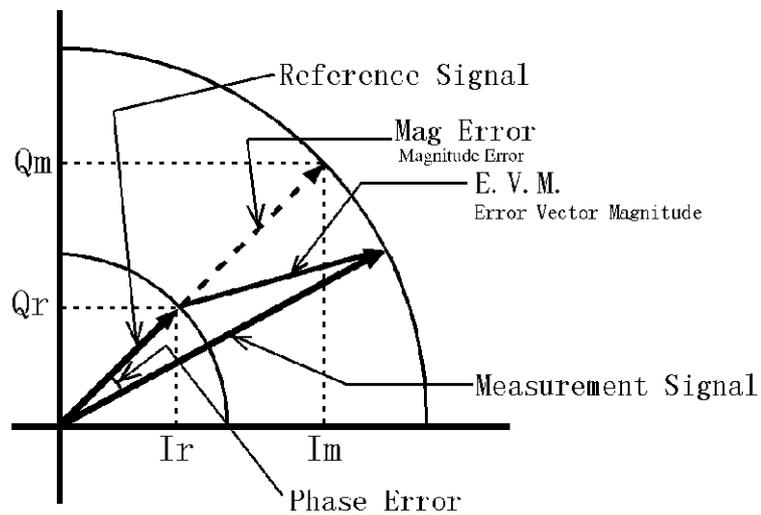

Figure 5-12 Mag Error, Phase Error, E.V.M.
Mag Error is defined as shown in Figure 5-12, and the value is calculated using the following formula.
Phase Error is defined as shown in Figure 5-12, and the value is calculated using the following formula.
E.V.M. is defined as shown in Figure 5-12, and the value is calculated using the following formula.